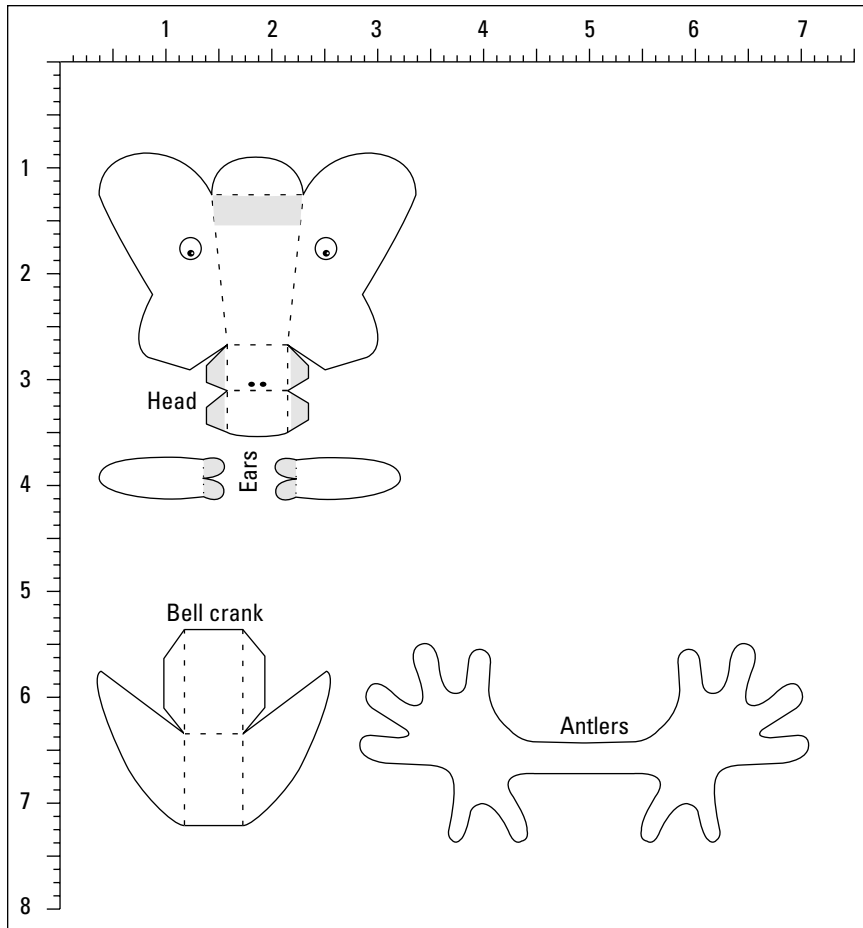

Figure 11-6:
1. **Copy the template parts in Figure 11-6 onto a sheet of card.**